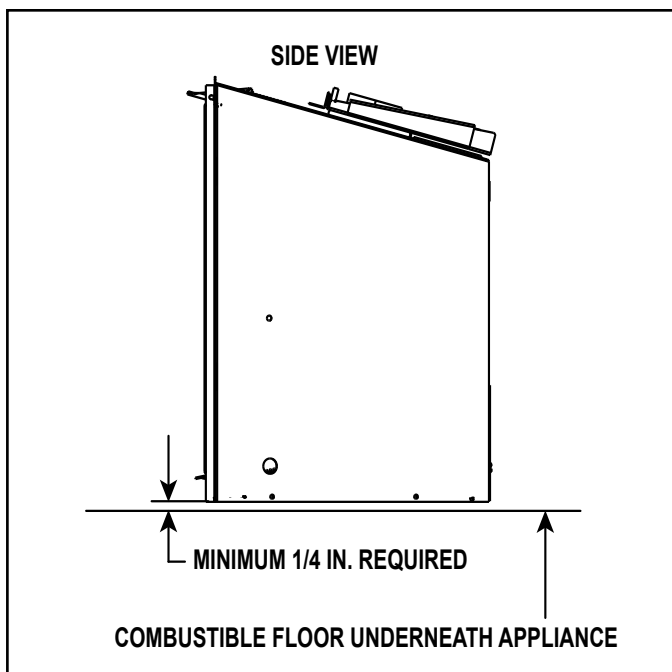

Figure 3.6 Solid Fuel Floor Clearance
- A minimum 1/4 inch gap from the bottom of the appliance to the metal floor of the solid fuel firebox is **REQUIRED**. See side view in Figure 3.6.